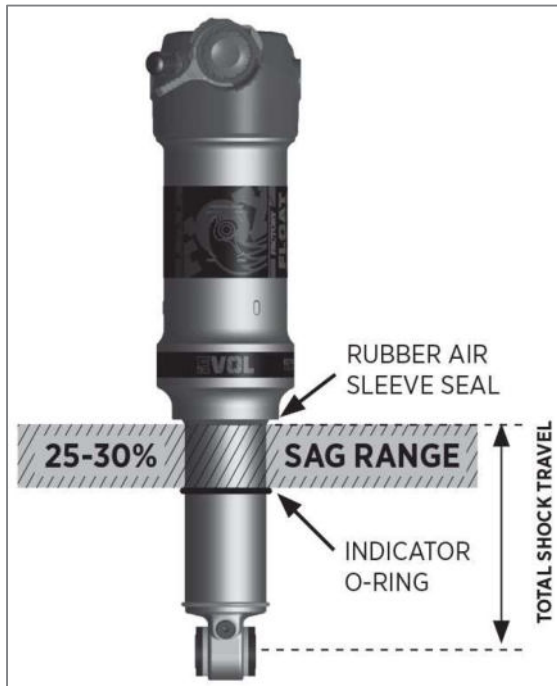

Figure 38: Negative suspension travel setting on the damper
5. Slide the indicator O-ring down up to the stop, directly on the rubber air sleeve seal (Fig. 38).
6. Slightly lift the product again by the leg rest. The O-ring should now have a distance of approx. 11 mm from the rubber air sleeve seal (negative suspension travel/sag range) (Fig. 38).
4. Slide the indicator O-ring down up to the stop, directly on the rubber air sleeve seal (Fig. 38).
5. Carefully climb out of the product. The O-ring should now have a distance of approx. 15 mm from the rubber air sleeve seal (Fig. 38).